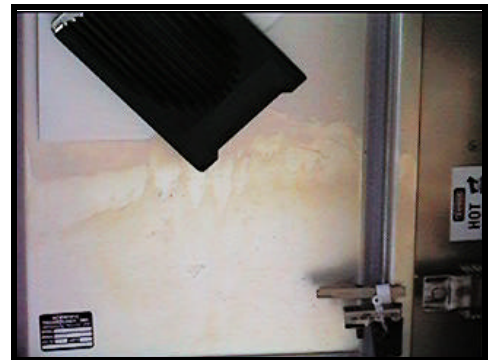

Figure 4 Heater/Blower and Thermoswitch Positioning
10. Slide the HEAT heater/blower frame over the top corner of the opened door so that the heater blows into the electronics enclosure (Refer to Figure 4).
11. Attach the thermoswitch to the lower left-hand side of the electronics enclosure, using a clothes pin, so that the thermoswitch is in the direct path of the blowing air from the heater/blower (Refer to Figures 4 and 5). The casing of the thermoswitch is part of the temperature sensing mechanism and should not come in contact with the door frame or other enclosure surfaces during heater operation.